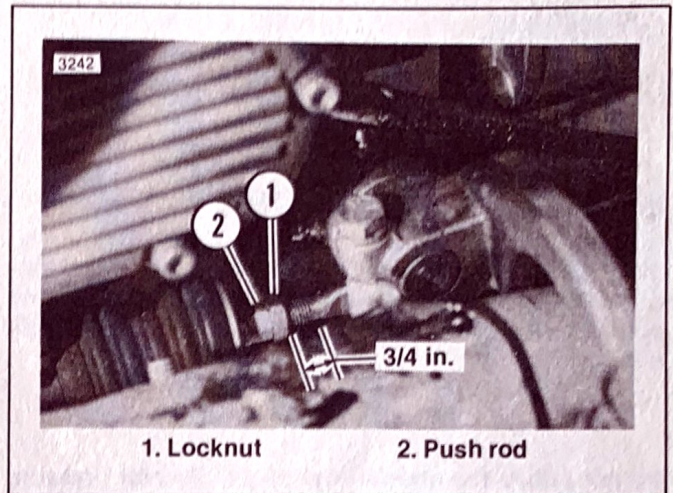

Figure 2-14. FXRP Brake Pedal Adjustment
The rear master cylinder does not require free-play adjustment. See Figure 2-14. The brake pedal position may be adjusted by loosening the locknut (1) forward of the master cylinder push rod (2) and turning the push rod.